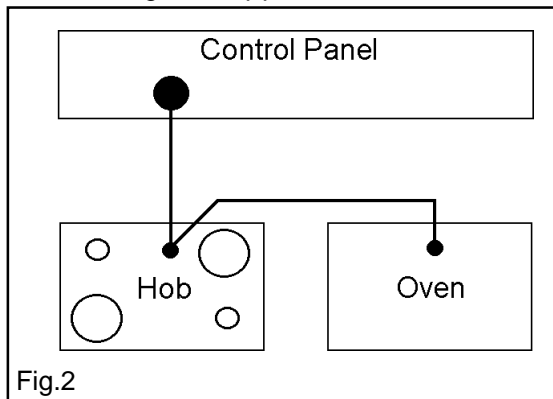

Fig.2
- ii) By connecting the cooker point to the hob and then connecting the hob to the oven. Provided that the hob manufacturer permits it, connect the oven to the hob and the hob to the cooker point using the same cabling as described in (a) above. Check the hob terminal block is large enough to take two cables and is of suitable rating. If not b) i) on page 8 must be used. See Fig. 2.